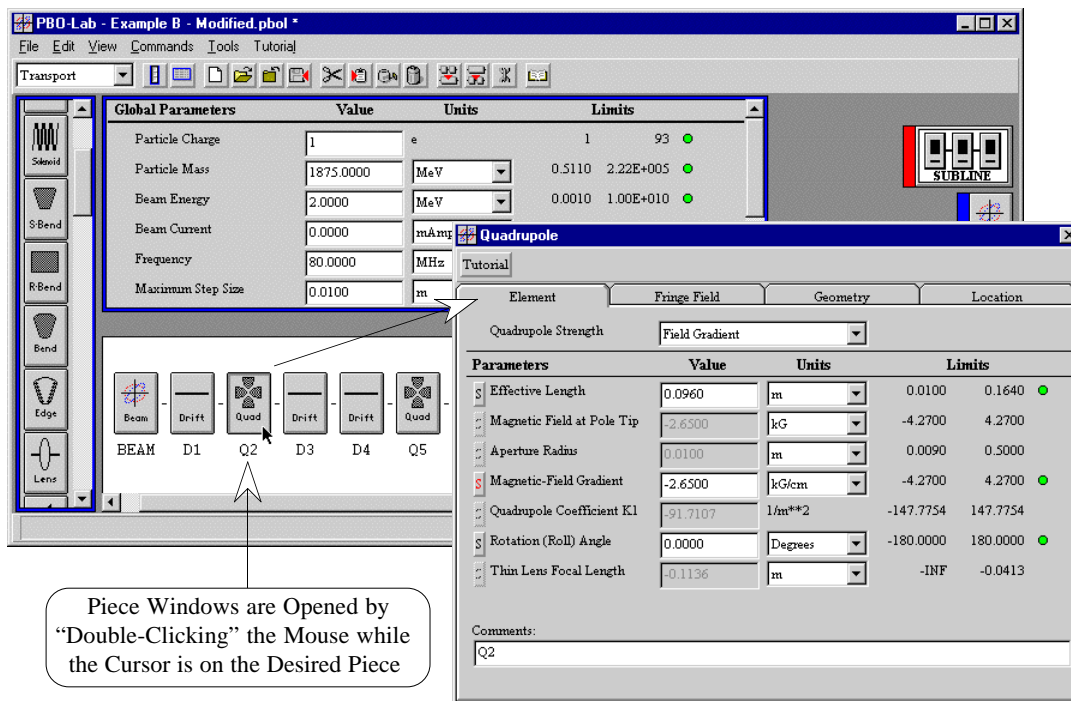

Figure 16. Opening the Piece Window for a Quadrupole Element.
Input parameters for beamline elements are accessed in PBO Lab Piece Windows. Figure 16 illustrates double-clicking a Quadrupole Piece icon in the beamline model to open a Quad Piece Window. Piece Windows can be opened for pieces in the Model Space and Work Space as well as Subline Windows or Focusing and Bending Module Windows.
Each Piece Window contains a Title Bar with Close Box, a Button Bar and one or more parameter data records. Some Piece Windows have tab panels that provide access to additional parameters, such as the Quadrupole Piece Window shown in Figure 16. Each parameter data record includes four fields of data: (1) a word description of the Parameter, (2) a Value field for entering numerical data or a pop-up selection menu, (3) a Units field that provides options through pop-up menus and (4) Limits fields, which provide input guidance using a set of knowledge-based rules.
The primary beamline Element parameters are always displayed on the front tab panel in a Piece Window, as shown in Figures 16 and 17 for the Quadrupole and Sector Bend. Additional (secondary) parameters may be included in other tab panels as illustrated for the Quad Piece Window in Figure 6 of the *Getting Started* Chapter. Most Application Modules require only a subset of the primary element parameters (indicated with application-specific green dots). Secondary parameters may be used for a variety of calculations in PBO Lab Tutorials and Tools and for some application-specific inputs.
The Quadrupole Strength pop-up is used to toggle between parameter sets in the Quad Piece Window (Figure 16).
Some Piece Windows contain more than one parameter set for specifying a beamline element. Top level pop-ups above the parameter header in Piece Windows are used to activate alternate parameter sets for specifying an element. For example, the Quadrupole Strength in the Quad Piece Window shown in Figure 16 and the Dipole Strength in the Sector Bend shown in Figure 17 both provide alternate parameter sets for these elements. Parameter Value fields are activated (editable) and deactivated (non-editable) based on the parameter set selection. Inactive, dependent parameters are auto-calculated based on active user editable parameters. PBO Lab indicates which parameters will be used for the current Application Context. However, it is possible to specify an element for a particular Application Module using a parameter set that is not supported by that application. PBO Lab will auto-calculate the required inputs for specifying an element in the native format required for each Application Module.